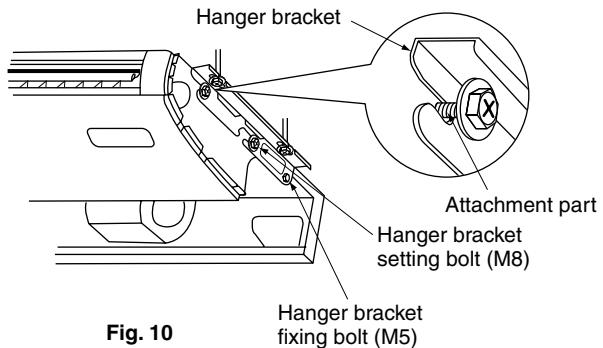

Fig. 10
### (2) Lift the indoor unit's main body, insert the bolt (M8) for the hook into the attachment part on the hook, while sliding the main body from the front. (Refer to Fig. 10)
### (3) Fasten the bolts for the hooks (M8) securely in the four locations, left and right. (Refer to Fig. 10)
### (4) Replace the screws for the hooks which had been removed (M5) securely in 2 places left and right. This is necessary to prevent any forward and back deviance in the main body of the indoor unit. (Refer to Fig. 10)